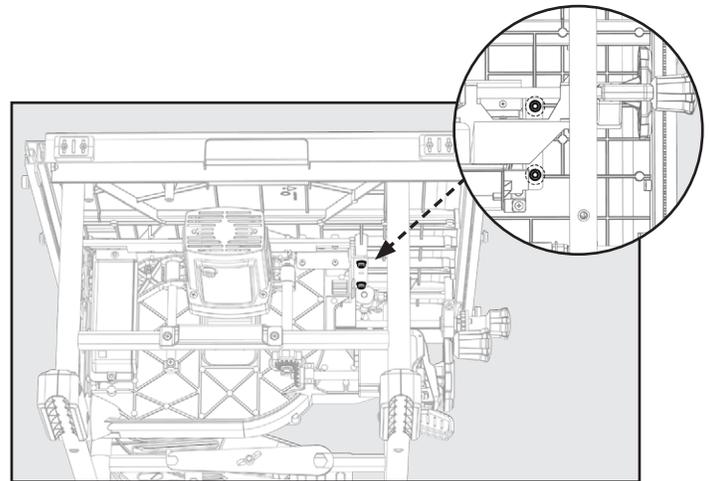

Figure 35
4. Loosen the rear trunnion bolts using a 5mm Hex Wrench, found below the table top. See Figure 35.